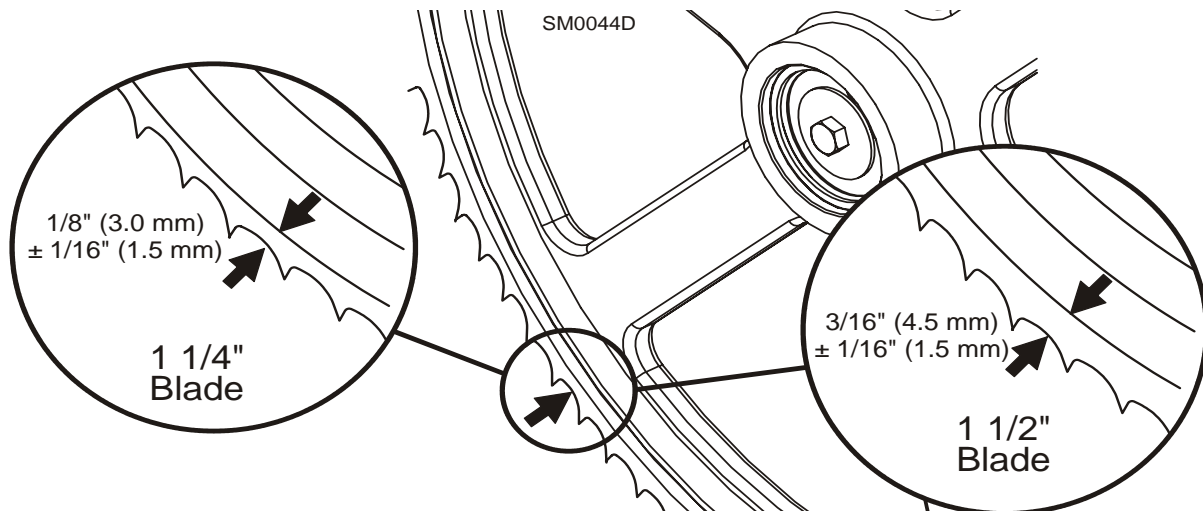

FIG. 3-20
**See Figure 3-20.** Position 1 1/4" wide blades so the gullet is 1/8" (3.0 mm) out from the edge of the blade wheel ( $\pm 1/16$ " [1.5 mm]). Position 1 1/2" blades so the gullet is 3/16" (4.5 mm) out from the edge of the blade wheel ( $\pm 1/16$ " [1.5 mm]).